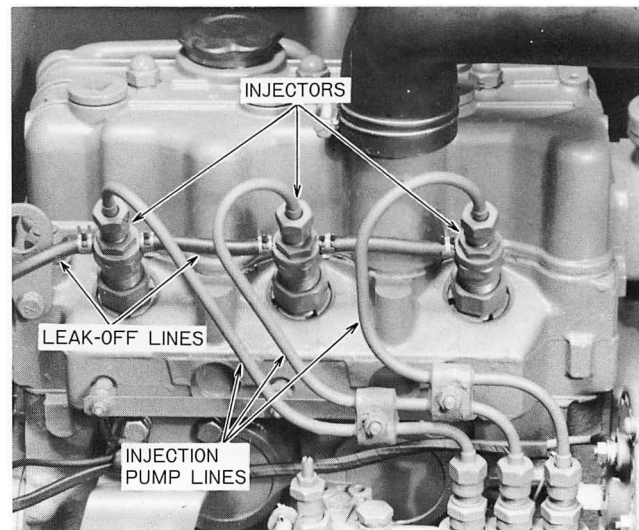

Figure 53 – Fuel Injector Leak-Off Lines
1. Clean all loose dirt from around the injectors and lines. Disconnect the leak-off lines from the injectors, Figure 53.